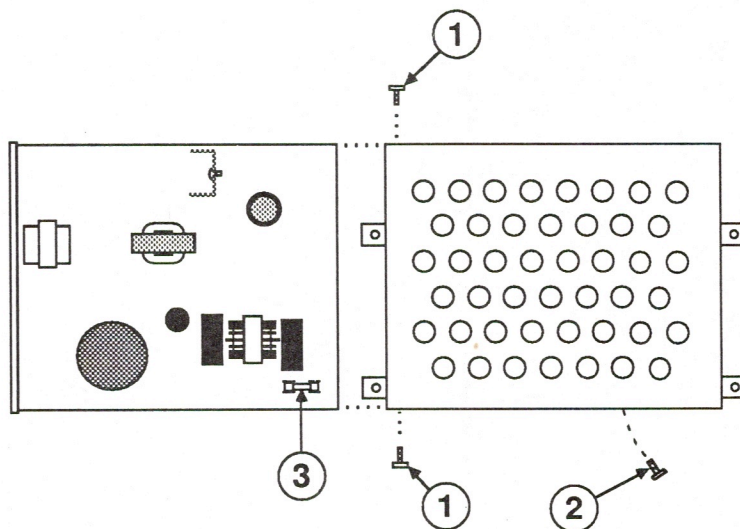

FIGURE 8
4. Remove the two screws on the sides of the power supply housing (Figure 8, #1) and the screw in the indentation on the bottom (Figure 8, #2).
5. Slide the power supply board out of the metal casing and locate the fuse on the upper left corner of the board (Figure 8, #3).
4. Replace the two screws on the side of the housing (Figure 8, #1) and the screw in the indentation on the bottom of the housing (Figure 8, #2).